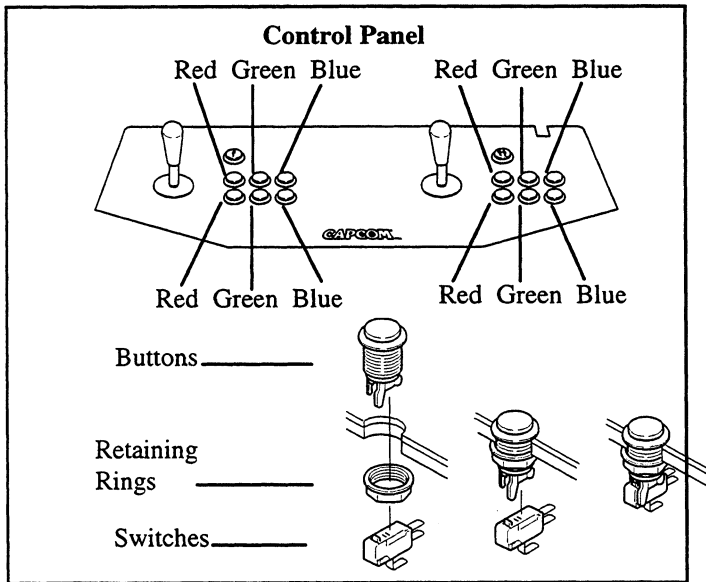

FIGURE 2
15. Install all buttons and retaining rings on the control panel as shown in Figure 2. Install two RED buttons to the immediate right of each joystick, install two GREEN buttons to the right of the red ones, and install two BLUE buttons to the right of the green ones.
17. Install the switch on the buttons as shown in Figure 2. Orient the switches so that when a button is pressed, the red contact on the switch is depressed.